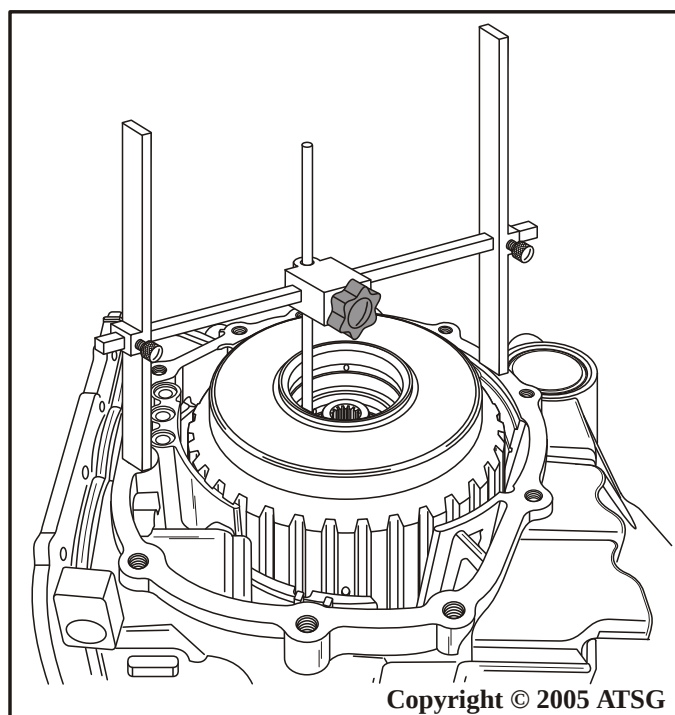

Figure 185
67. Install "H" gage on transaxle case, as shown in Figure 185, and set adjustment rod on roller surface of the number 7 bearing, as shown in Figure 186.